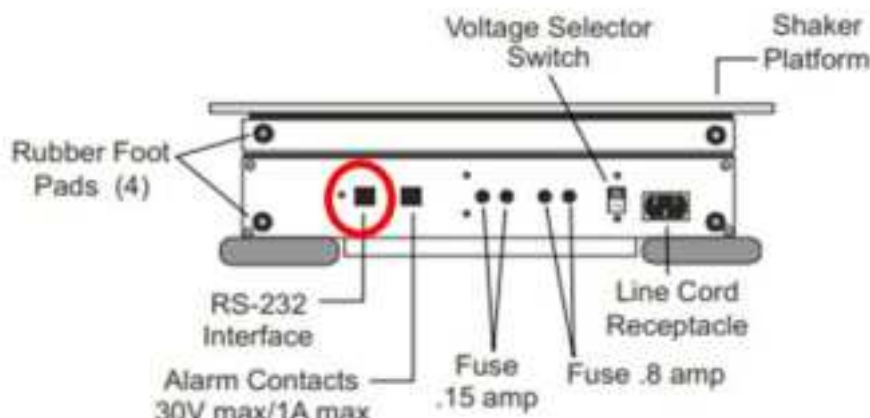

Figure 1 Red circle indicates RS-232 interface
8. Locate the RS-232 Interface on the asset (shown in Figure 1) to which the Element-D will connect.